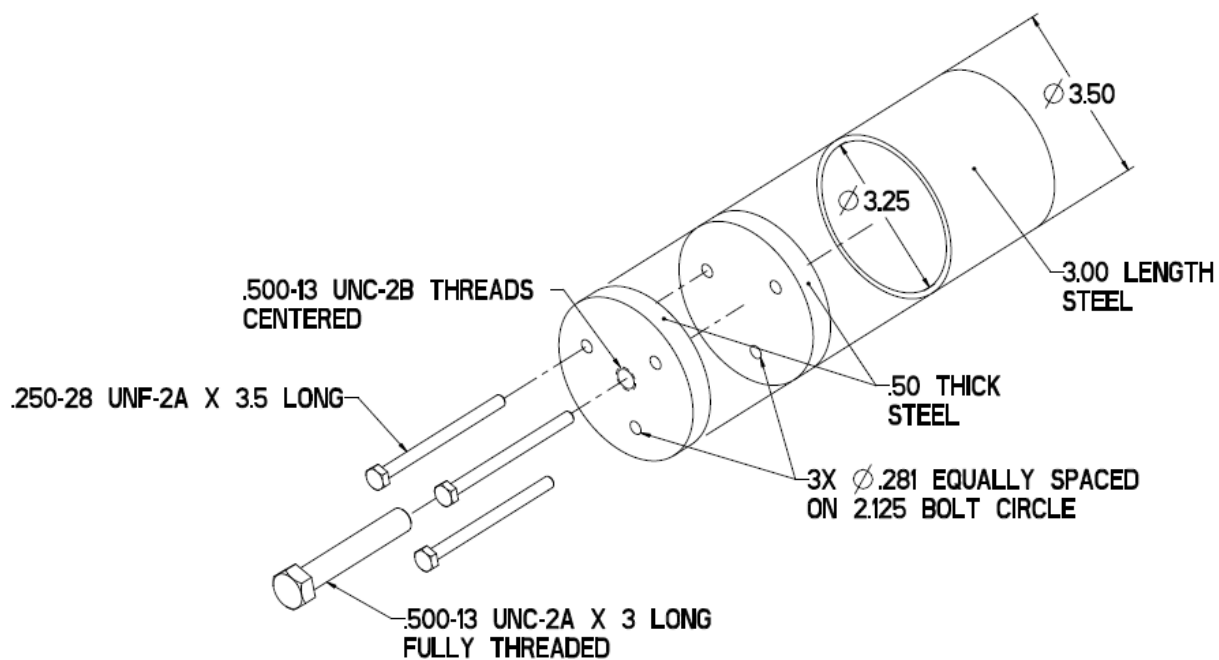

Figure 7.4.2
- Piston Puller Tool- See Figure 7.4.2